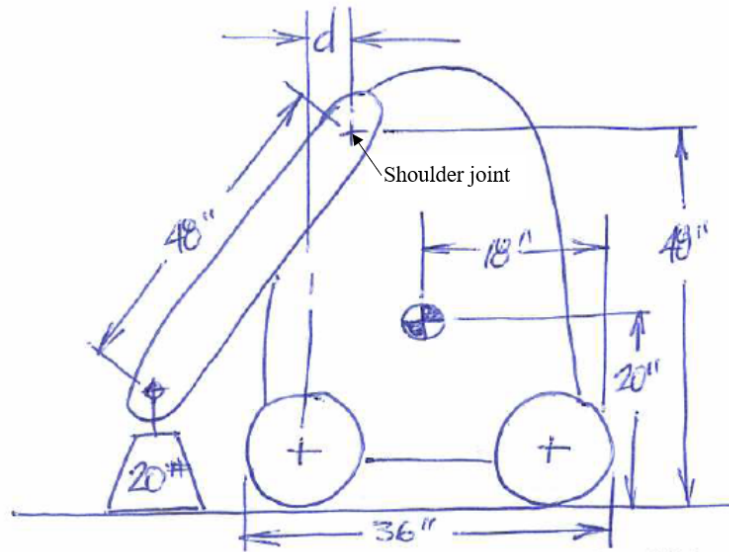

Figure 4: Robot with arm.
6. Shown in Figure 4, your 4-wheeled robot with 14 in wheels needs to pick up a 20 lb. weight from ground level and raise it to 6 ft. You are provided a motor that is rated for continuous torque output of 228 in-lbs and stalls at 310 in-lbs. The center of gravity of the robot chassis is as shown; it weighs 100 lbs. The arm weighs an additional 10 lbs. with a center of gravity midway along its length. You will rotate the arm around the shoulder joint using a single strand of #25 roller chain. Your job is to spec the sprockets.